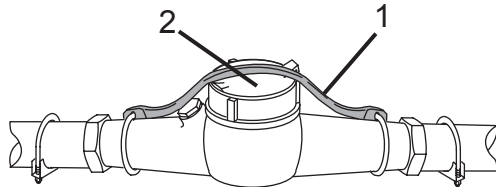

Figure 123
1. Slide the retaining strap (Figure 123, Item 1) to one side and open the cover (Figure 123, Item 2).
4. Close the cover (Figure 123, Item 2) and secure using the retaining strap (Figure 123, Item 1).